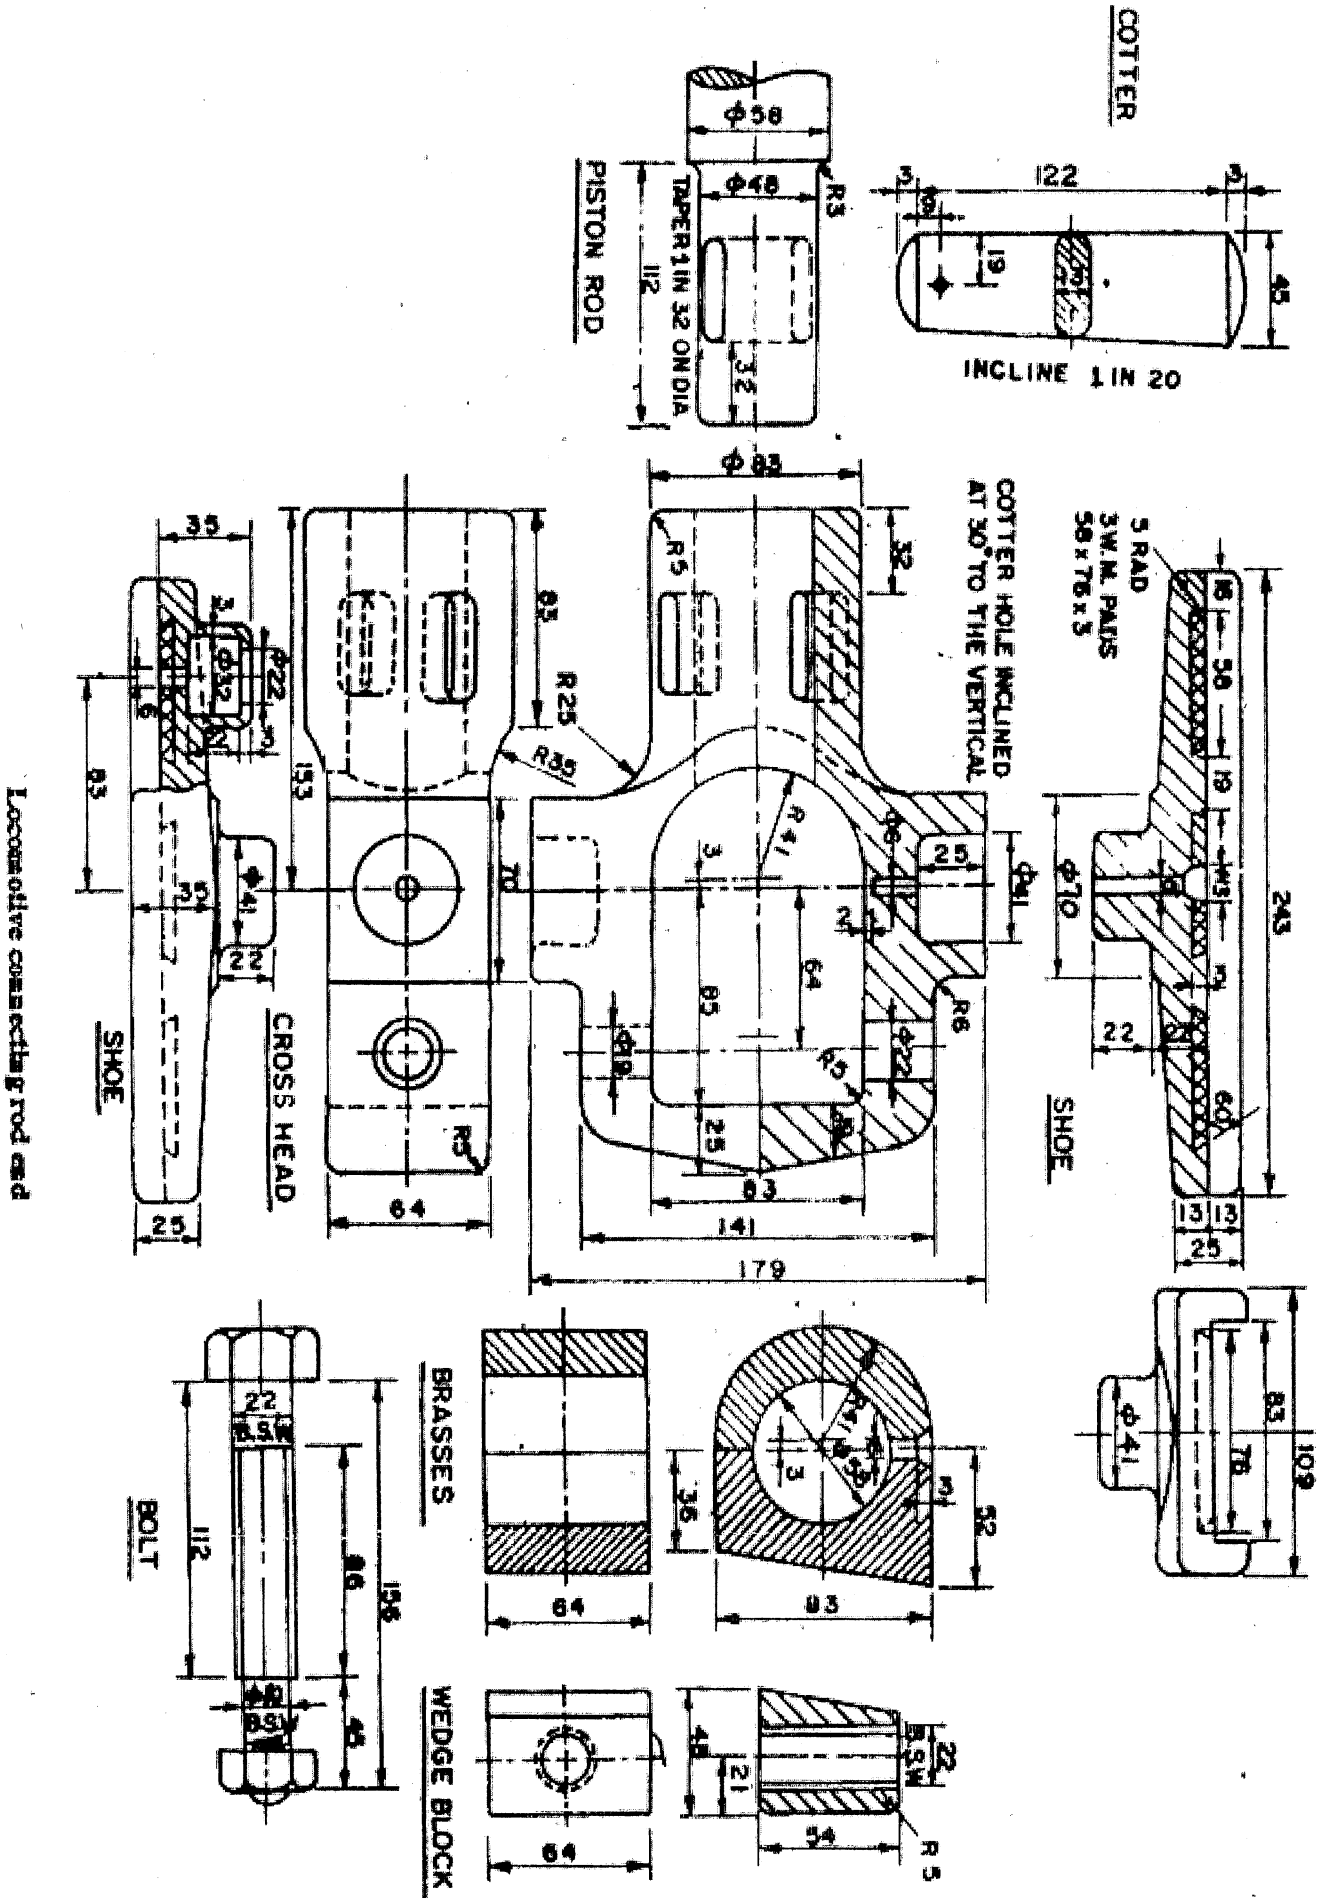

Fig.3
- 5. Fig.3 shows detailed drawing of locomotive connecting rod end . Assemble all parts and draw the following views of assembly